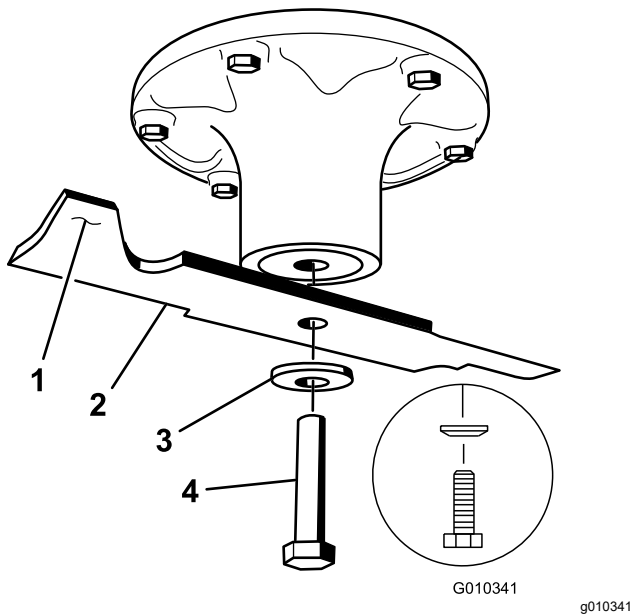

Figure 77
2. Remove the blade bolt, curved washer, and blade from the spindle shaft (Figure 77).